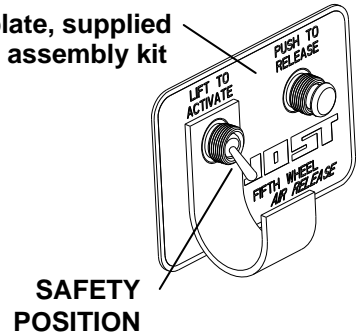

FIGURE 4
2. Move the toggle switch to the activated position (this energizes a buzzer alerting the operator that the control is ready to activate) see figures 4 & 5.
6. Move the toggle switch to the safety position (see figure 4).